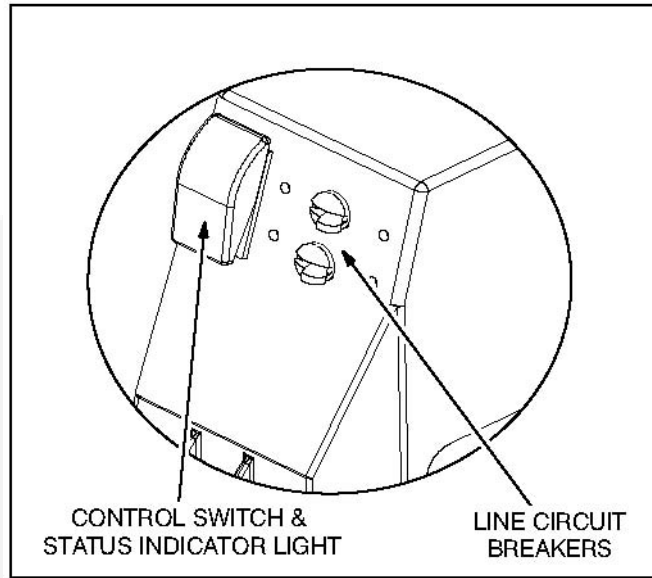
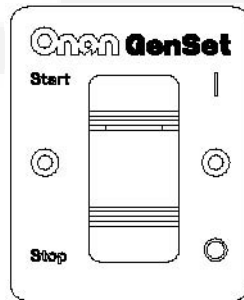

FIGURE 3. GENSET CONTROL PANEL
FIGURE 4. REMOTE SWITCH
The genset control panel (Figure 3) is located behind the maintenance access cover (Figure 4) and has the following features:
- Remote switch with status indicator light only (Figure 4).